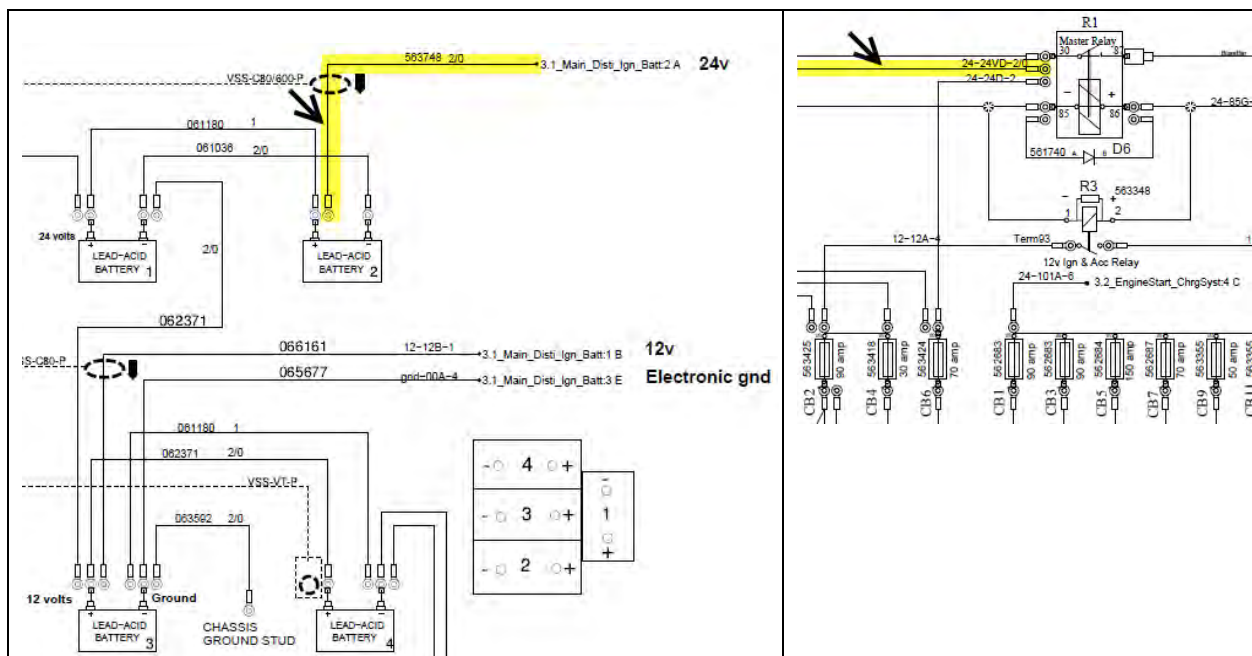

Figure 9
- In the **battery compartment** between **battery and master relay R1** (Figure 9).